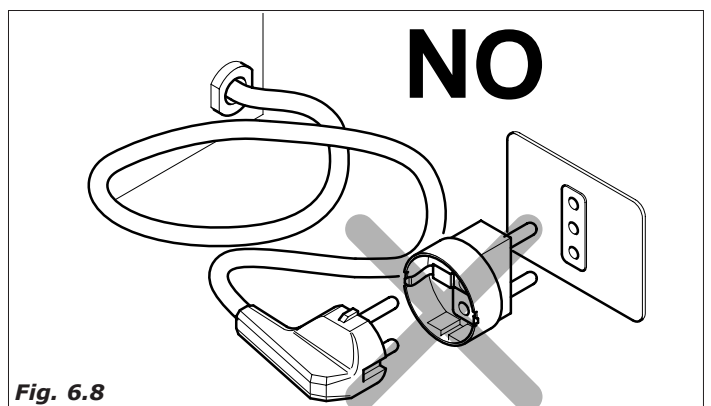

Fig. 6.8
- The sockets that are not compatible with that of the machine must be replaced. (Fig.6.8).